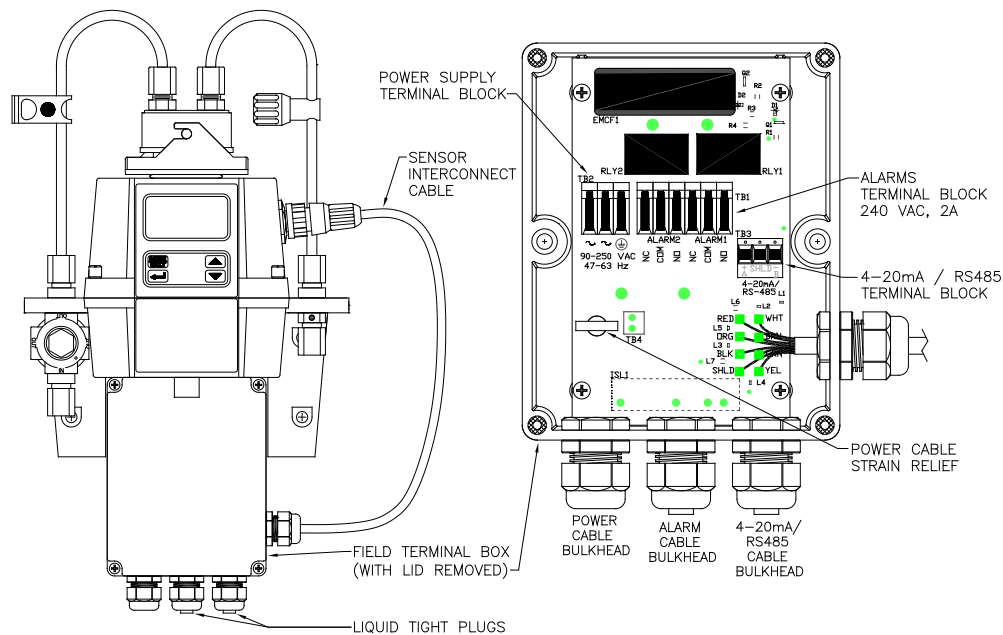

Figure 5: Electrical Connections for the Instrument
All of the electrical connections to the instrument are made through the field terminal box, which should be located directly under the sensor portion of the instrument. The connections are labeled within the terminal box and are self-descriptive (see Figure 5). Please follow all local and government recommendations and methods for installation of electrical connections to and between the instrument and other peripheral devices.
3.3.1 Power: The instrument is equipped with a 100-240 VAC, 47-63 Hz switching power supply; please verify that the line voltage falls within these specifications. It is recommended that a circuit breaker be placed prior to the power connection to allow for service. While making connections, refer to Figure 5. **The AccUView LED is not supplied with a power cord.**